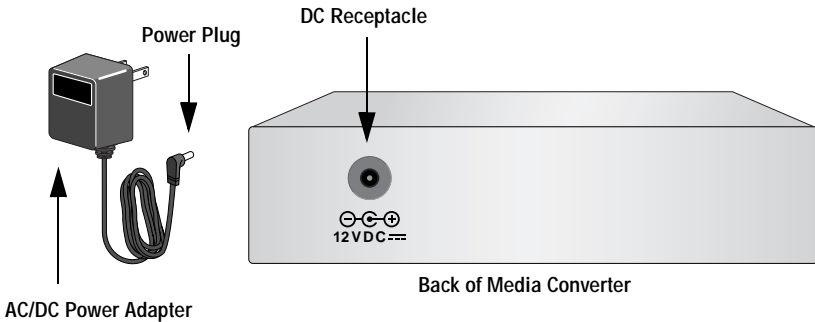

Figure 7 DC Connector
5. Plug the AC/DC power adapter into an appropriate AC power outlet and insert the power plug into the DC receptacle located on the back of the unit. Refer to Figure 7. **This step does not apply if you installed the unit in an AT-MCR12 chassis.**